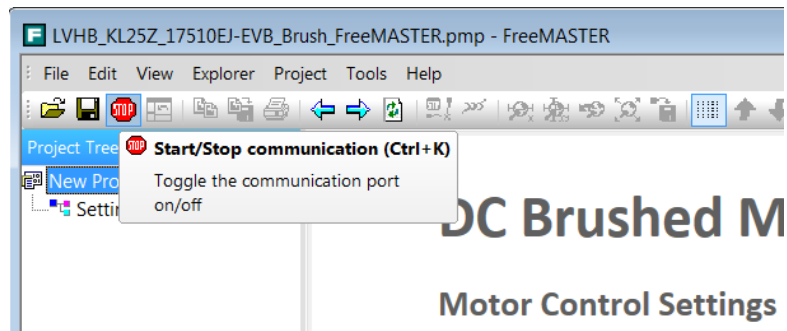

Figure 7. Run FreeMASTER application
5. Start FreeMASTER monitoring (click on the red button named **STOP**, see Figure 7).